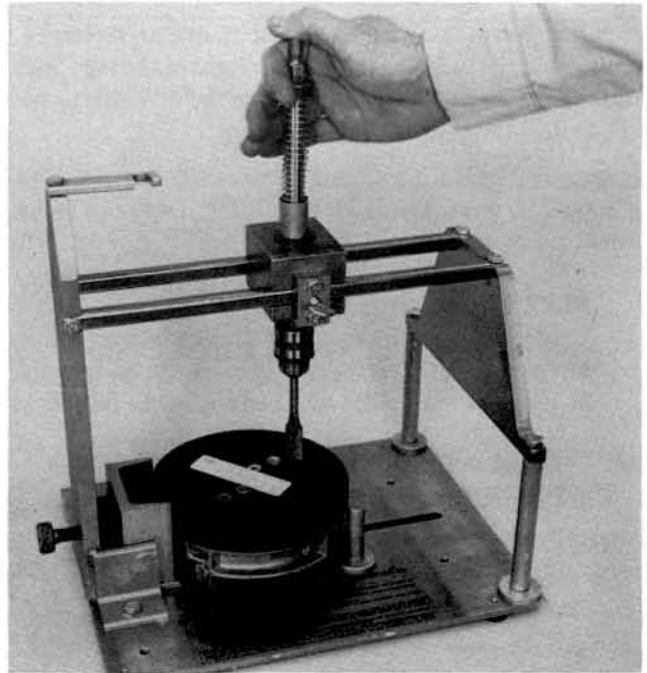

Figure 9
5.07 Rotate the end plate and slide the bearing block along the clamp jaw guides until the drill point is positioned over the drilling location. Tighten the clamp screw to secure end plate and tighten the bearing block thumb screw. Figure 9.